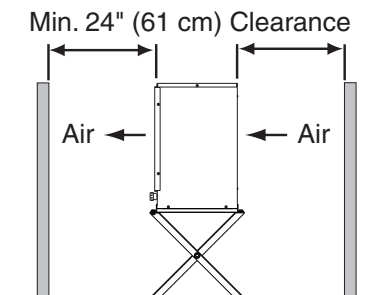

Fig. 17
- A dry and well ventilated area with 24" (61 cm) clearance at front and rear for proper air circulation and ease of maintenance and/or service should they be required. See Fig. 17.